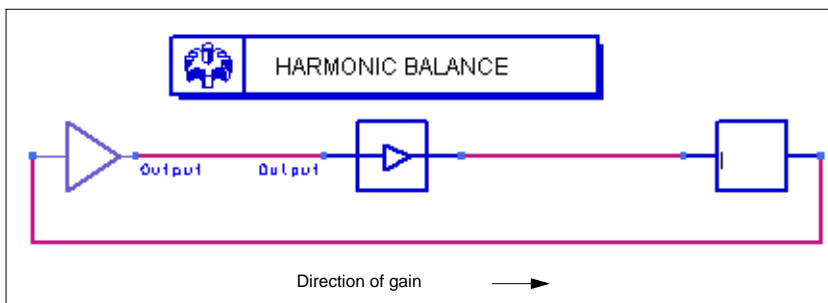

Figure 3-2. Example setup for a basic oscillator test using the harmonic balance simulator and the OscPort component
Figure 3-2 illustrates a setup that uses the harmonic balance simulator and OscPort component.
- In a feedback oscillator, use this port to break the feedback path. The arrow (and pin 2) should point in the direction of injection (the direction of the gain). Refer to Figure 3-2.